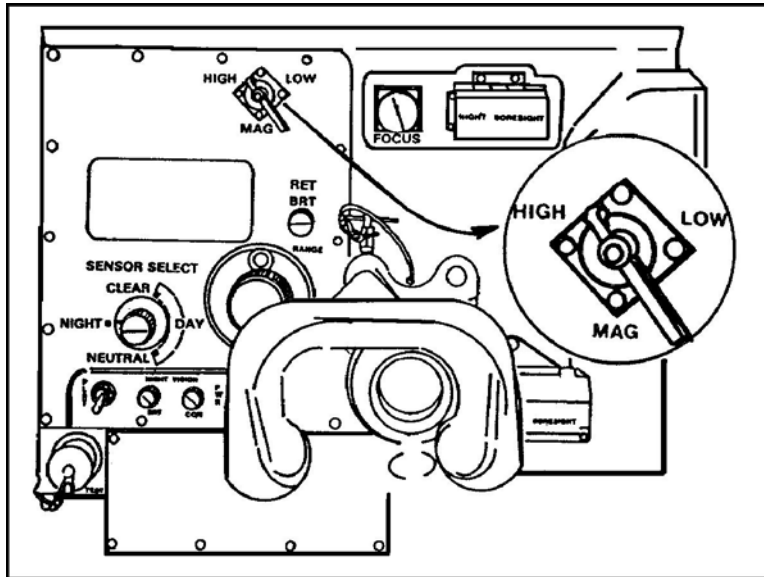

Figure 2. Magnification switch.
6. Move the MAG switch to HIGH (Figure 2).